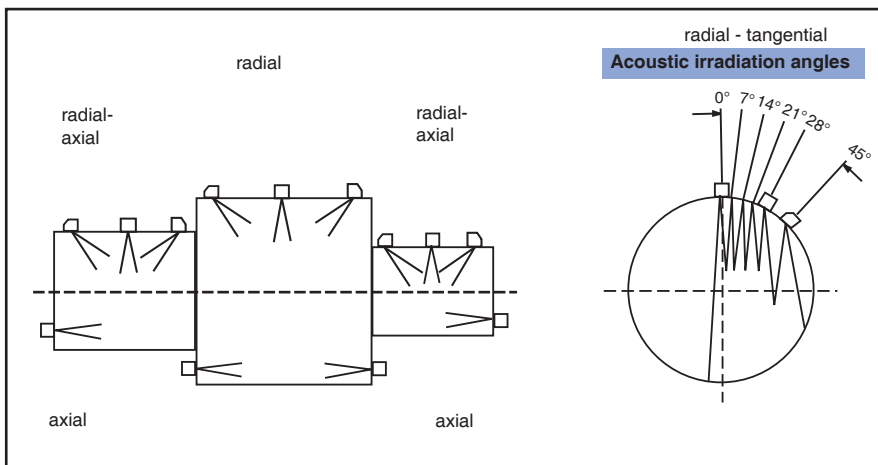

Figure 14—Ultrasonic inspection of integrally forged gear element.
- Non-destructive testing (see Fig. 14)*: Rough machined and finished, followed by ultra-
- o Optimizing Jominy-Curve for high alloy steel—restricted hardenability band (H).
Fig. 14 shows that the check of the shaft core for inclusions and cracks can be detected only by using special sensors for different sound-angles. An ultrasonic inspection test of radial and axial angles with 0° is not sufficient.
Table 6—Forging, material class recommendations (Use with Figure 14).